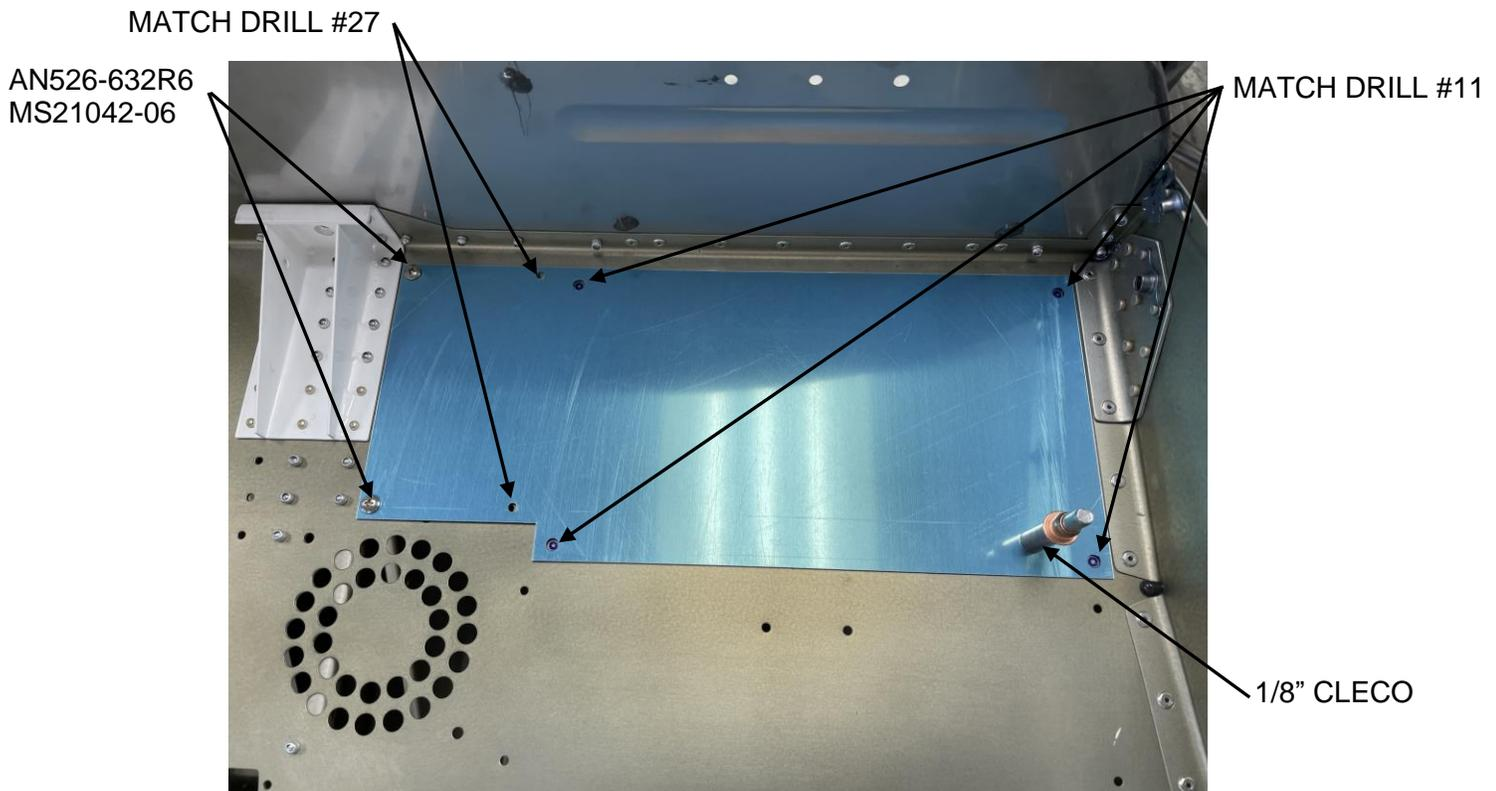

FIGURE 2: TOOL-00114 INSTALLED ON F-01202B-1 PANEL BASE
Step 4: Place TOOL-00114 drill template onto the F-01202B-1 Panel Base and fasten using hardware noted in Figure 2. Match-Drill as shown in Figure 2. The #27 holes are overlapping with existing holes to create a slot. After drilling, some additional filing may be required to fit the AV-60009-2.